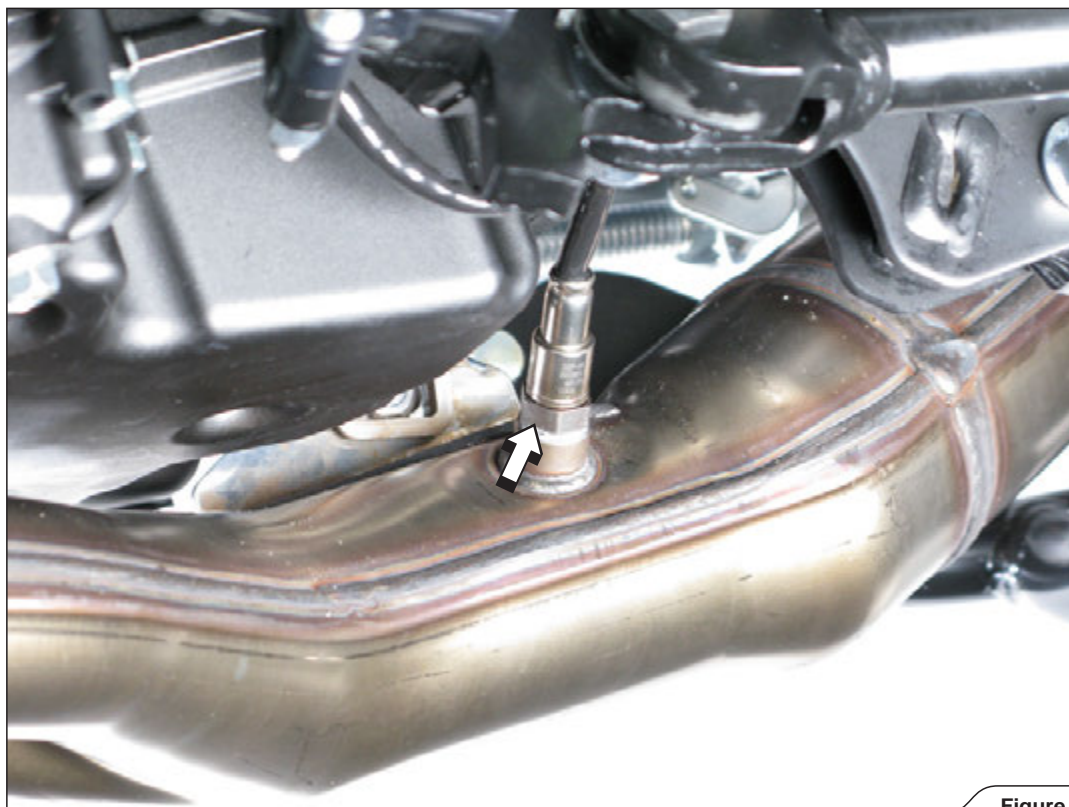

Figure 5
4. **For Akrapovič Racing only:** unscrew the lambda sensor (Figure 5).